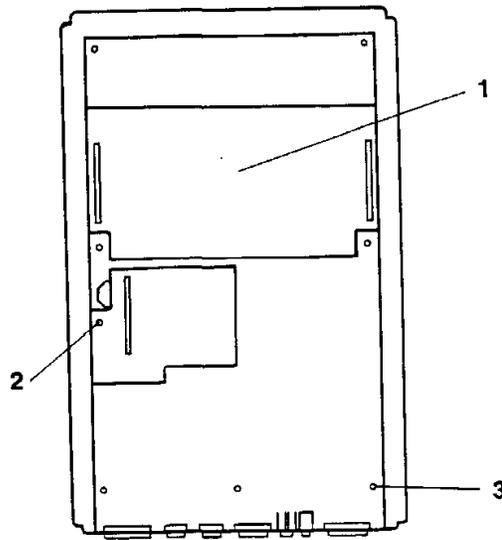

FIGURE 9
2. Replace the main logic board by slipping the peripheral connectors into their cutouts in the rear access panel, and replacing the retaining screw with the nutdriver (Figure 9, Item 3).
3. Replace the encoder board. (Figure 9, Item 2).
4. Replace the memory board. (Figure 9, Item 1). Make sure the memory board is properly oriented. The RAM chips on the memory board point in the opposite direction to the chips on the main logic board. The notches on the memory board IC's should be facing the output connectors.